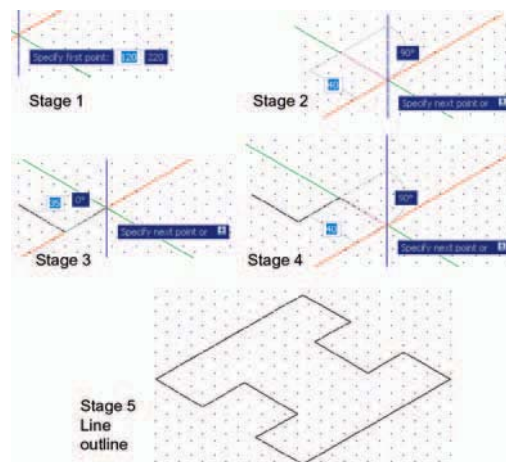
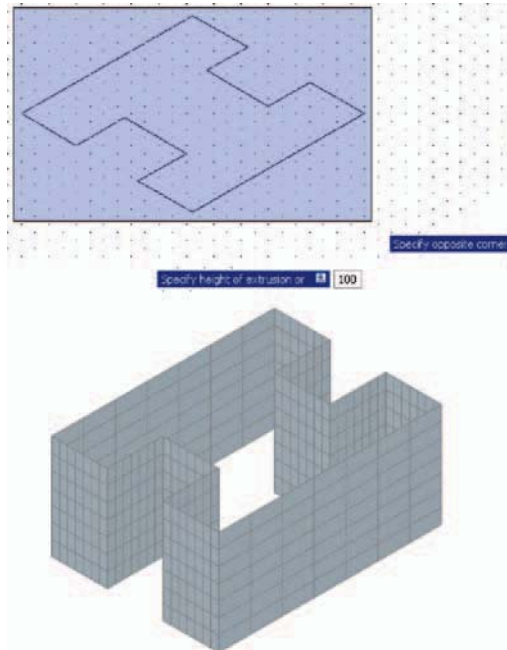

Fig. 12.35 Example – constructing the **Line** outline
Fig. 12.36 Example – Dynamic Input
Example – Dynamic Input (Fig. 12.36)
1. Using the **Line** tool from the **Home/Draw** panel construct the outline (Fig. 12.35).
The stages of producing the extrusion are shown in Fig. 12.35 and Fig. 12.36. The resulting 3D model is a surface model.
The resulting 3D model shown in Fig. 12.36 is a surface model because the extrusion was constructed from an outline consisting of lines, which are individual objects in their own right. If the outline had been a polyline, the resulting 3D model would have been a solid model.